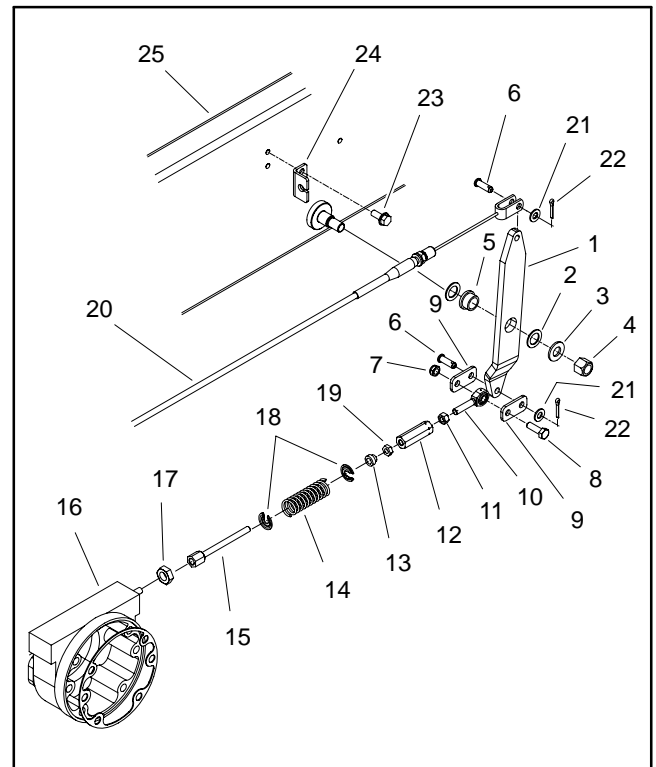
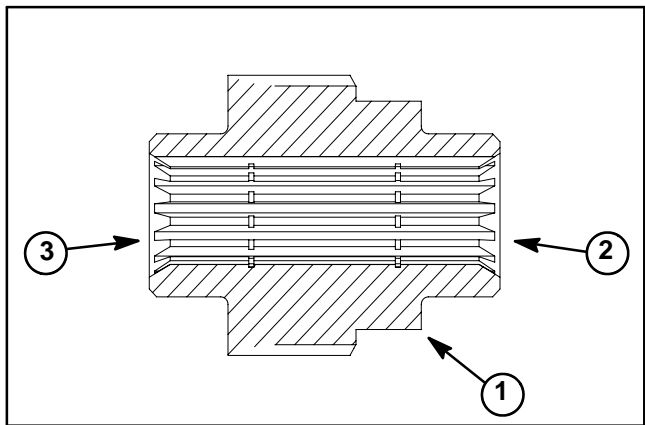
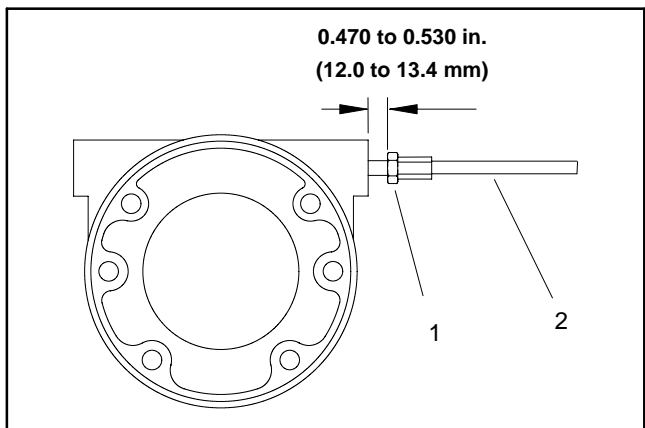

Figure 2
Figure 4
Figure 5
7. Disconnect brake link assembly from brake lever, frame bracket and pull rod on brake assembly (Fig. 2).
9. Remove flange head cap screws (item 9) securing brake assembly to frame.
10. Remove brake assembly from machine. Be careful to not drop splined brake shaft (item 3) as brake assembly is removed.
12. Remove and discard gasket (item 11). Make sure that all gasket material is removed from both brake and planetary assemblies.
1. Install splined brake shaft (item 3) into brake assembly. **NOTE:** The stepped end of the splined brake shaft must be aligned toward the hydraulic wheel motor (Fig. 4).
2. Apply gasket sealant to sealing surfaces of new gasket (item 11). Apply gasket to brake assembly.
4. Secure brake assembly to planetary assembly with four (4) flange head screws (item 9). Tighten screws in a crossing pattern to a torque from **75 to 85 ft-lb (101 to 115 N-m)**.
5. Secure brake link assembly to pull rod on brake assembly, frame bracket and brake lever (Fig. 2). Brake link end should be completely threaded onto pull rod before tightening jam nut.
11. Check and adjust brake cables for proper brake operation. If necessary, adjust hex link (item 12 in Fig. 2) so that pull rod jam nut is positioned from 0.470 to 0.530 in. (12.0 to 13.4 mm) from brake casting surface when brakes are disengaged (Fig. 5).